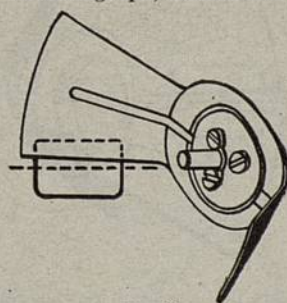
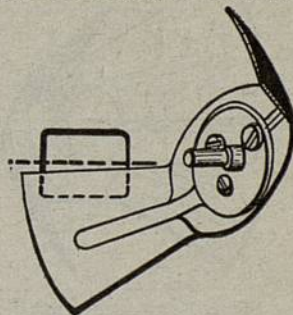
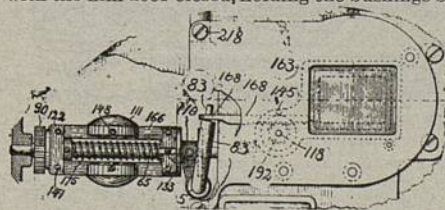
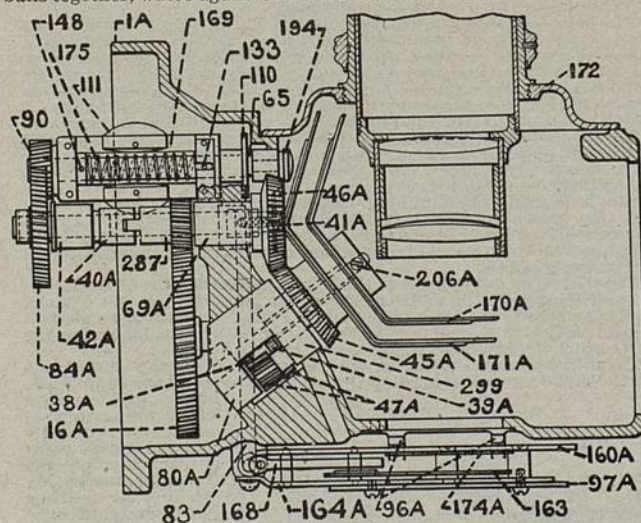

Fig. 22.
Fig. 23.
Fig. 28
Fig. 29
**To Attach the Auxiliary Front Intermittent Shutter.**—Remove the lens plate on front of mechanism by loosening the two thumb screws at the bottom, lift up the spring at the top, while pulling the front plate forward sufficiently to disengage the spring and lift it up to disengage it from the thumb screws below. Remove the gear cover by loosening the three screws, one in front, one in back and one at the top of the mechanism which hold the gear cover in position; then loosen the two screws No. 206—Fig. 23, remove the shutter No. 170-A, remove the screws shown in Fig. 22 and remove the shutter No. 171-A. Next remove the shutter drive shaft screw No. 41-A, Fig. 29, which holds No. 46-A bevel gear on shutter shaft, then loosen the small set screw in gear bridge which holds No. 42-A bushing for governor drive in position and loosen the small set screw which holds No. 69-A bushing for shutter drive arbor in position. The whole shaft may now be pushed toward the gear bridge sufficiently to allow No. 46-A bevel gear to drop out. With the front shutter is furnished a bevel gear similar to No. 46-A, except that it is smaller and is to be attached to the shutter drive shaft on the inside of the mechanism by simply reversing the operation on which we have just explained to remove the gear No. 46-A. These bevel gears are held on the shutter drive shaft by the single screw in the center. There is a steel plate attached to the center of the gear on which there is a tongue which engages with the grooves of the same size in the shutter drive shaft. Care should be exercised that the tongue is properly engaged with the groove in the shaft, before tightening the screw No. 41-A, Fig. 29.
**Fourth:**—The adjustment of the governor and fire proof shutter is accomplished by sliding endwise the pivot bushings No. 194 Fig. 29, which is located in the main frame and No. 193-A, which is located in the gear bridge on the end of gear No. 90, Fig. 29, by first loosening the screws which hold them in their respective positions.
the way up as soon as the machine is started and will just as readily drop all the way down when machine is stopped. When the fire shutter governor is properly located as above directed, tighten the screw which holds bushing No. 193-A in gear bridge, then push the bushing No. 194, Fig. 29, toward the gear bridge so that it will rest lightly against the shoulder of No. 65 governor arbor Fig. 29 and tighten screw which holds bushing in position.
The governor that operates the fire-proof shutter may be removed from the Motiograph if necessary by removing the bushings at each end of the governor shaft or arbor as above directed, or by removing the gear bridge and inside bushing, No. 194, Fig. 29.
to hold the film steady when machine is running but there should be no excessive pull felt at the crank handle each time the intermittent sprocket pulls down the film when the film door is closed and machine is in operation. To adjust the tension spring No. 174-A, Fig. 29, remove the film gate from the mechanism by loosening the hinge screw at the top of door while door is open sufficiently to allow the door to drop down slightly after which it may be lifted up off of the lower hinge screw, being careful to lift No. 168 rack bar off the governor crank arbor No. 83. Loosen the upper screw in the cooling plate of the door and swing cooling plate around out of the way. Then remove the two screws which hold the No. 174 tension spring in position. Now slip the tension spring down slightly in order to release it from the hooks of the No. 96-A tension bars. Note carefully just how all parts are placed before they are removed for adjustment or replacement, otherwise considerable trouble may be experienced when replacing same. If it is desired to tighten the film tension, bend the spring down slightly on the ends so that the center of spring will be higher than the ends, in fact a slight bow shape, then when the screws are replaced and the center of the spring is drawn down into position, the ends of the spring will bear on the tension bars, giving the desired tension on the film when the door is closed. If, in case there is too much tension and it is desired to loosen it, simply reverse the operation of bending the spring. Care should be exercised not to bend the spring up or down too far, as they are very highly tempered and are liable to break. In replacing the door be careful to get the No. 168 rack bar back in the proper position on the No. 83 crank arbor. All of the above numbers referred to will be found in Figs. 28 and 29.